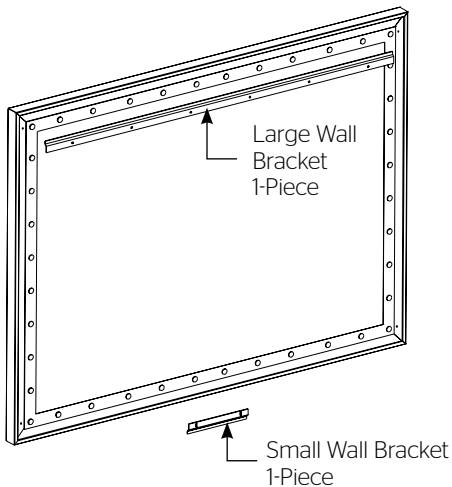

Figure 2
1. Secure the wall bracket to wall studs at the desired height. Make sure the bracket is level. The top of the frame will be 1/8" above the top of the wall bracket when mounted. You will need at least 5/8" clearance above the bracket to hang the screen. Figures 2, 3, and 4 show the proper orientation for the supplied wall brackets.